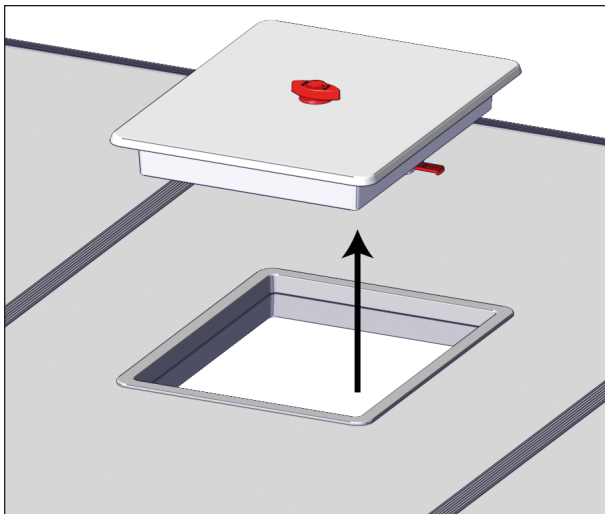

FIGURE 103: REMOVE HATCH
2. Push straight up on the escape hatch and move it to the side, see Figure 103.